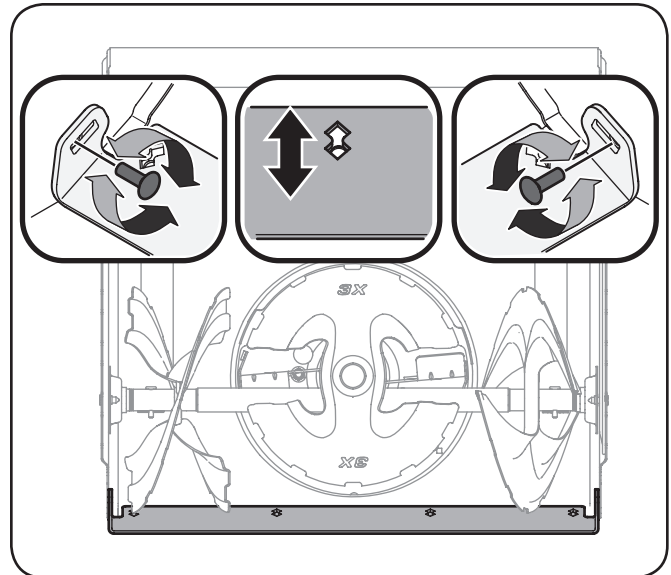

Figure 6-2
4. Slide the shave plate downward into the second position. Reinstall and tighten all bolts securely. See Figure 6-2.